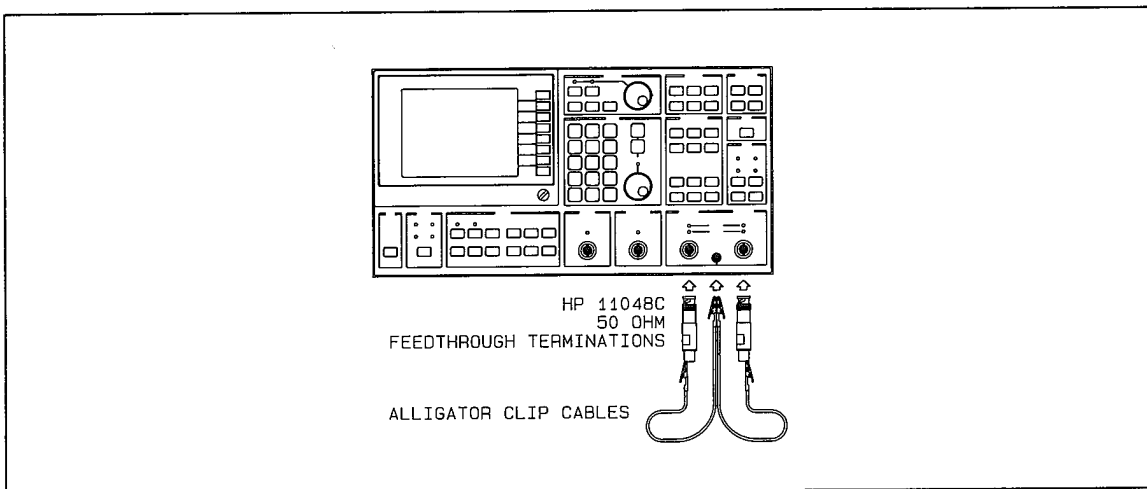

Figure 2-2 (OV) DC Offset Test Setup
A. Connect the test instruments as shown in figure 2-2. Keep the leads to chassis ground as short as possible.